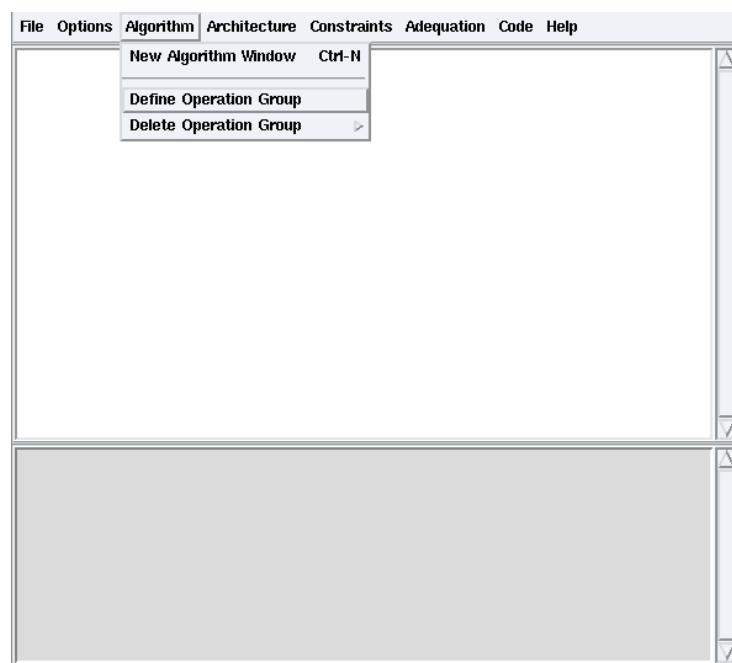

Figure 1.22: Define Operation Group
- **Algorithm / Define Operation Group** (cf. figure 1.22) → dialog window: `og1 og2 og3`,